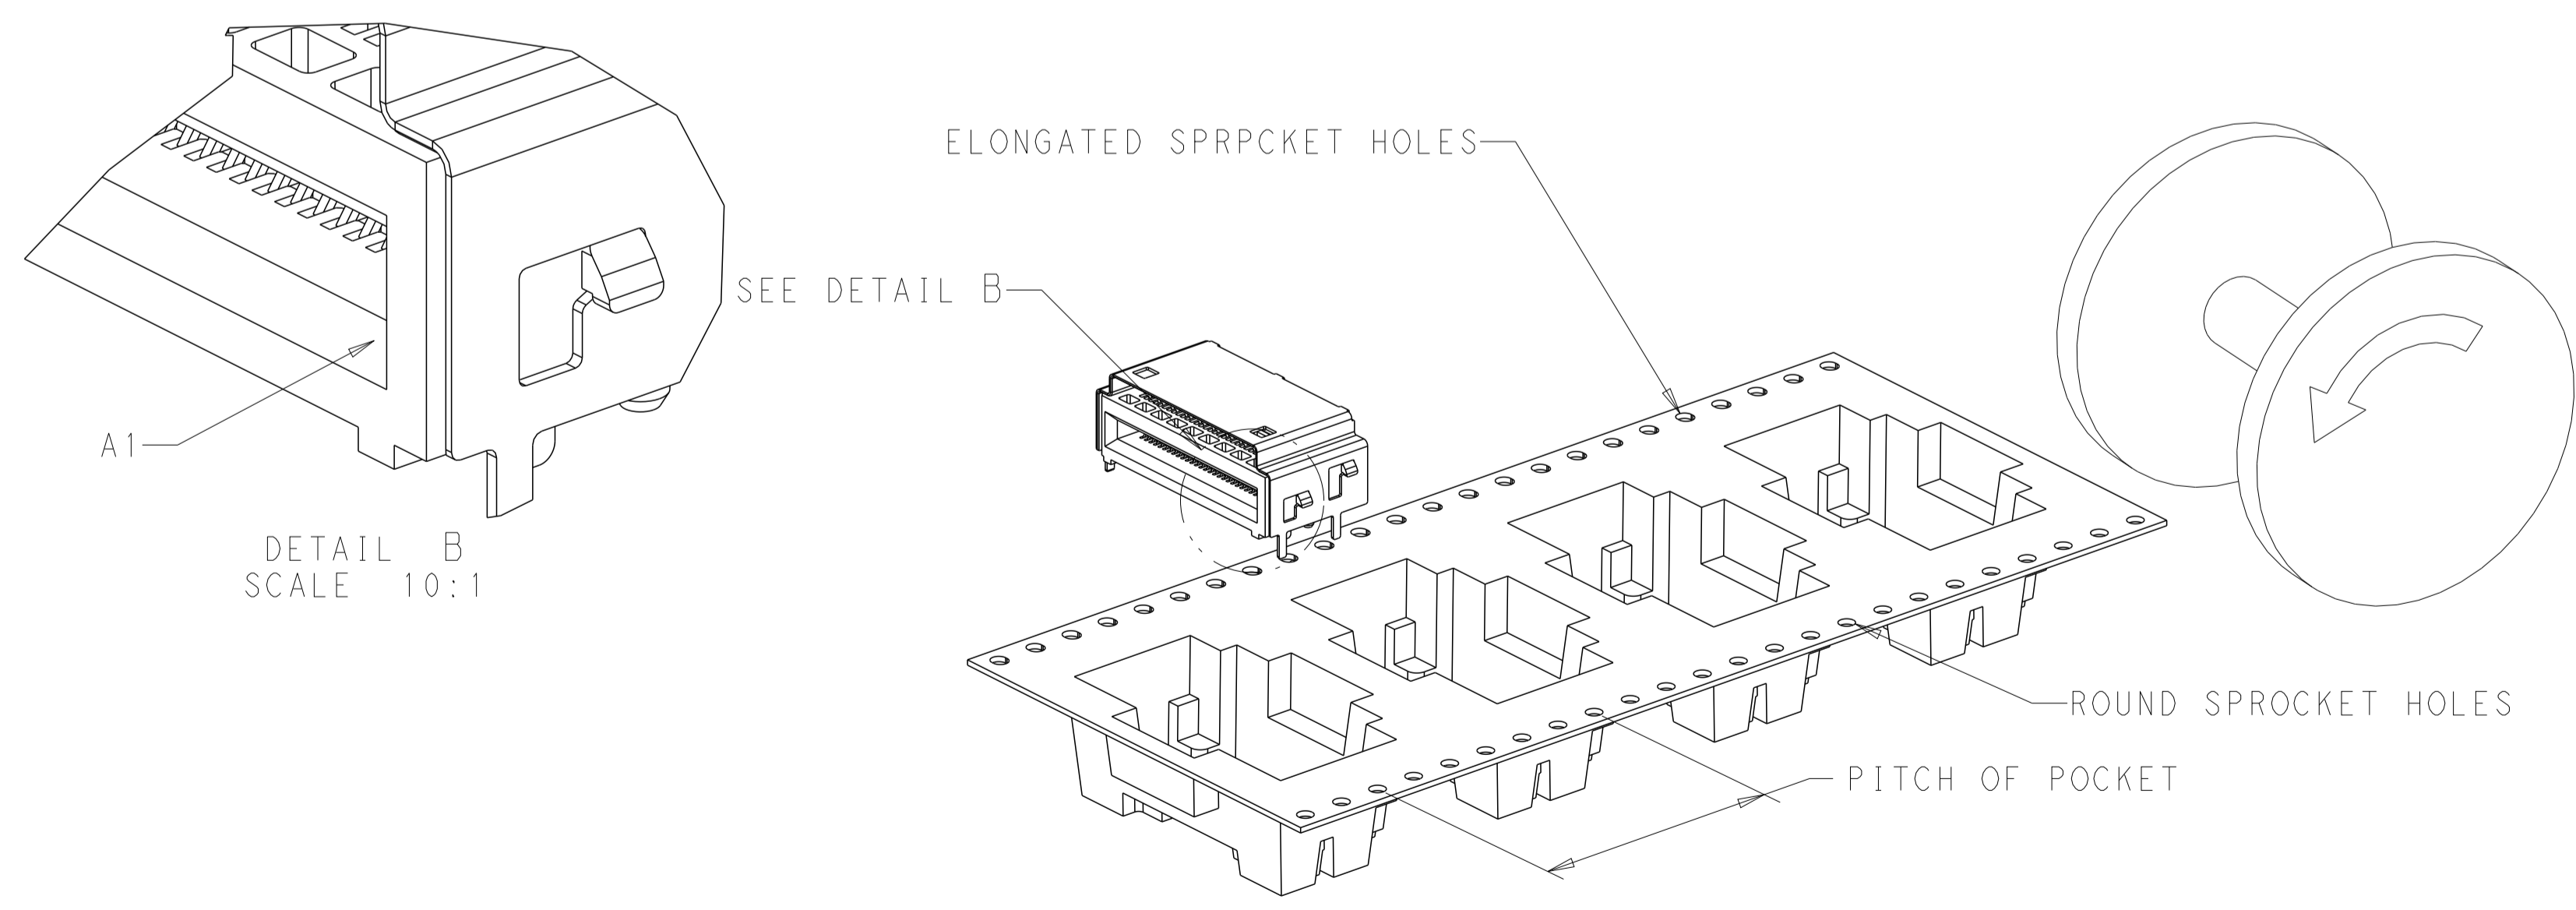

FIGURE 2 \triangle
- △ TAPE AND REEL PACKAGED FOR PICK AND PLACE SURFACE MOUNT PROCESSING, SEE FIGURE 1 AND FIGURE 2. POCKET TAPE: WIDTH = 44.